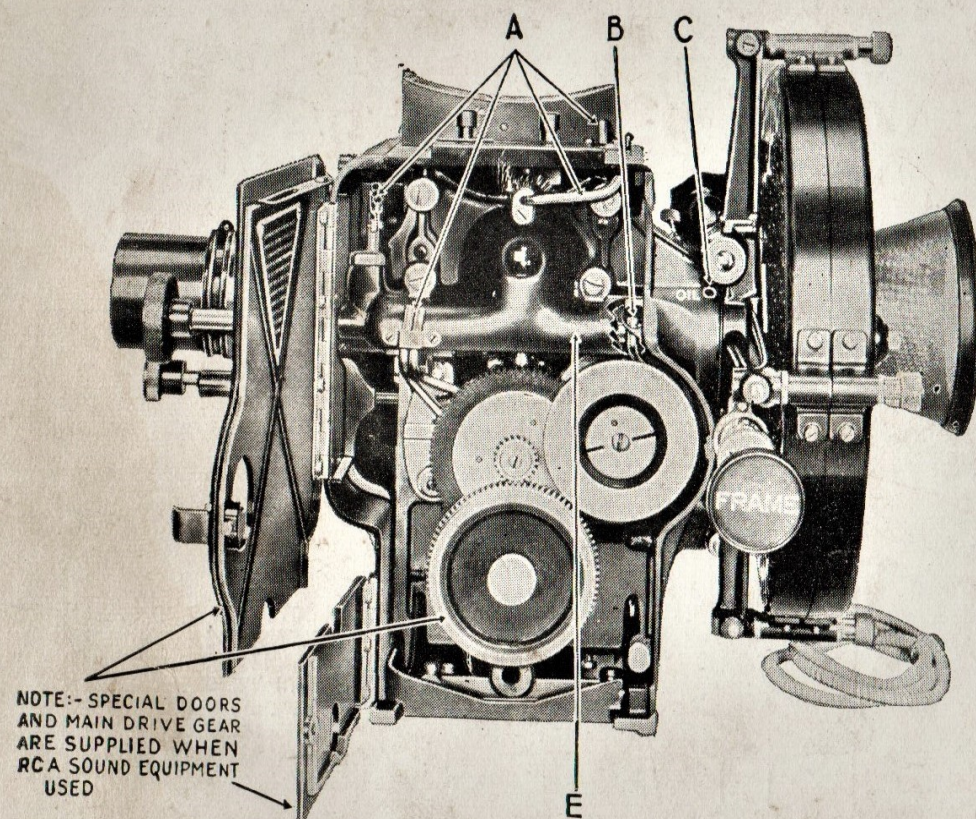

Fig. 1
The simplest and yet most efficient oiling system now forms part of the Super Simplex main frame assembly. All bearings in the frame are now reached by means of oil tubes conveniently located on the gear case side of the mechanism, see A, Fig. 1. There is but one bearing which has a direct oil hole on this side of the apparatus; this oil hole is for the lubrication of the rear bearing of the shutter shaft and is shown at C, Fig. 1. Do not overlook this oil hole when oiling the mechanism.
- (b) In the shutter shaft support casting, E, Fig. 1, just above the flywheel of the intermittent move-
ment, there will be found a window or hole milled through the casting through which can be seen a portion of the shutter shaft. Just in front of the shutter shaft is the oil tube, B, Fig. 1, leading to the intermittent casing. This oil tube can be reached in one position only—this position is obtained by moving the framing handle as before directed. Enough oil should be inserted through this tube to bring the level in the oil case up to the red sight line, and no more. (*Use only Simplex oil.*)